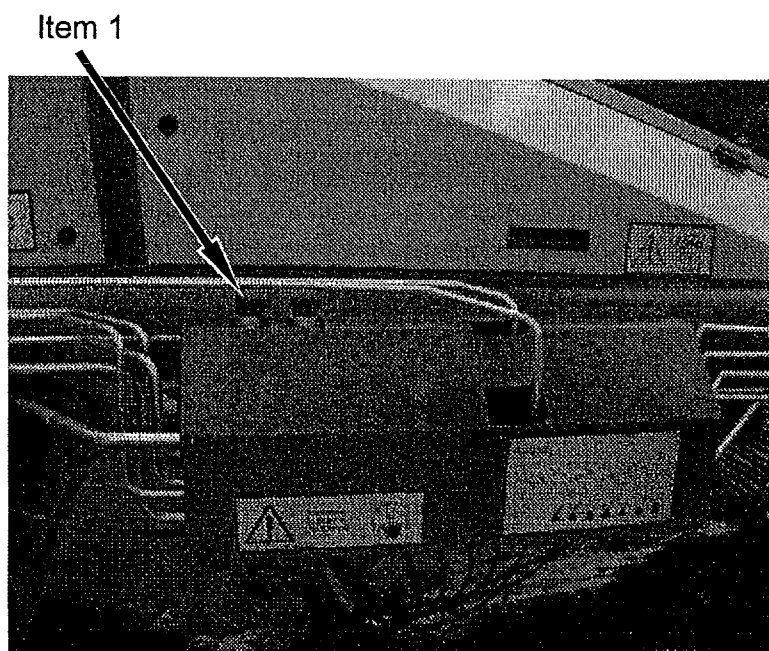

Fig 10.7
controls the on/off of the oscillator unit. The speed of movement of the oscillator is normally manually controlled by a valve on the tractor valve bank situated on the right hand side of the machine item 1 Fig 10.7 this valve can be made remote operated from the drivers control box (see section 4).